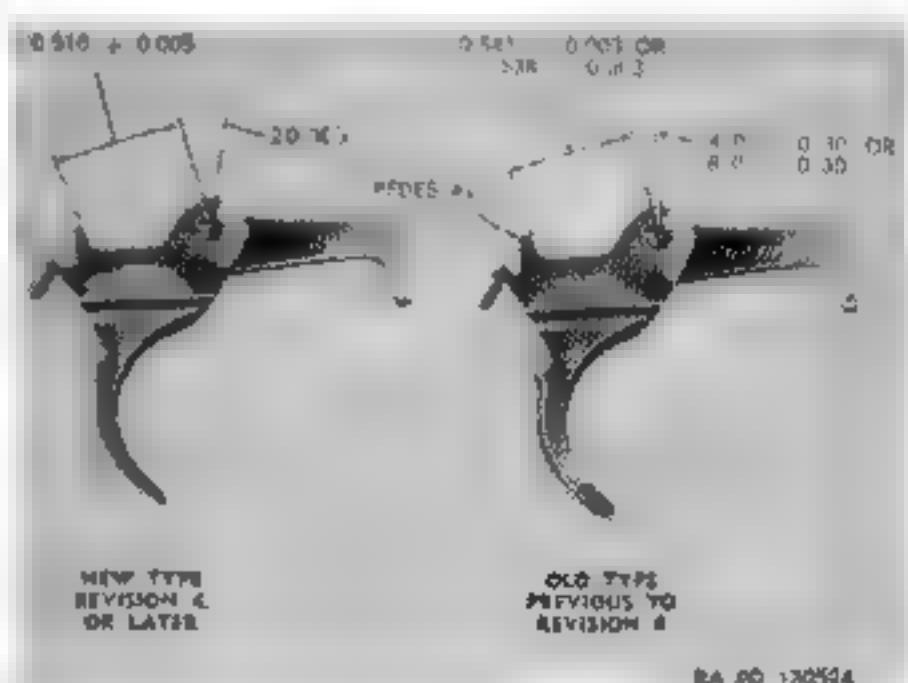

Figure 51. Trigger 6200988.
- (1) A light or heavy trigger pull may be caused by foreign matter or burns in the sear notch in the hammer, on the nose of the sear, on the top of rear end lip of trigger where the rear end of sear rests, or in the elongated pivot hole in the sear from seating fully in hammer notch. To correct, remove foreign matter or replace with new components from stock.
- (2) A light pull may also be due to a weak or broken sear spring which will not seat the sear fully in the hammer notch before the pressure from hammer spring is applied to the nose of sear through the hammer. Correct by replacing sear spring.
- (3) Uneven surface of hammer notch or worn nose of sear may alter trigger pull. Correct by replacing sear or hammer.
d. *Trigger Hang.* Triggers of early manufacture had a 4- or 8-degree angle on the forward face of the pedestal which was conducive to trigger hang. When trigger hang exists, and it is not due to malfunction of the trigger spring, it can be eliminated by replacing the trigger with one of recent manufacture having an angle of 20 degrees on the forward face of the pedestal (Fig. 51). Surface must be smooth.